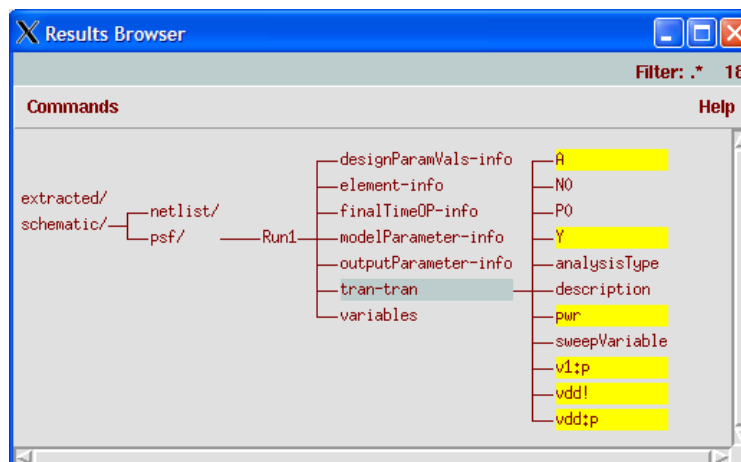

Figure 3: The Results Browser Window after selecting “tran-tran”
4. Since there was no switching activity in the circuit, the power waveform should be a straight line. Place your mouse cursor on the line and read the “y” value. This is the static power consumption of your circuit. See **Figure 3**.